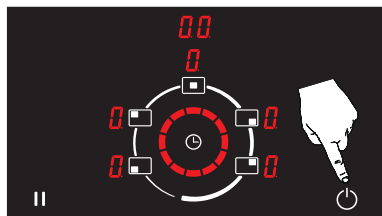

Figure 35
1. The auto cooking function (**R**) is terminated by pressing the on/off button (). (See Fig. 35)